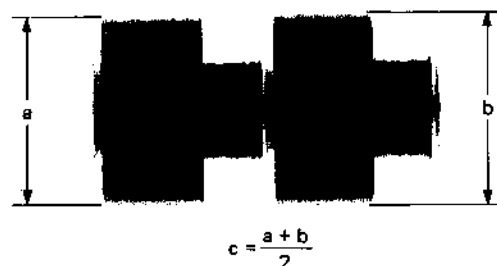

Fig. 5-25 PAL Recording color level
2. Measure the average of CH-1 output "a" and CH-2 output "b". See Fig. 5-25. Make a note of this as level "c".